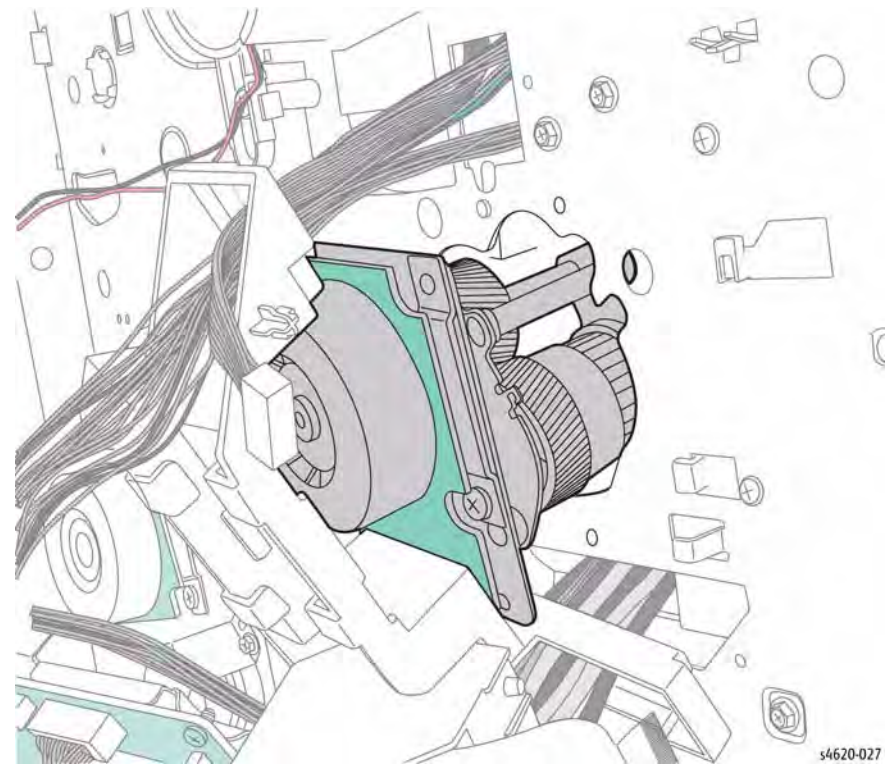

Figure 7 Remove the Fuser Drive Assembly
16. Pull the assembly through the hole in the chassis, Figure 7.